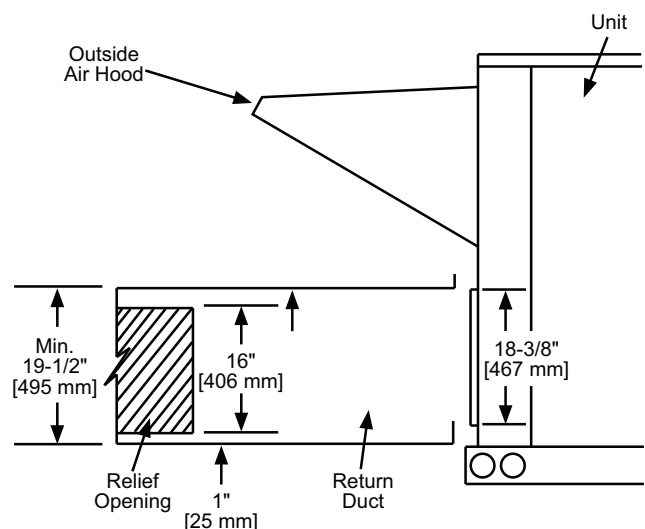

Fig. 19 — Relief Damper
1. Install the field provided horizontal ductwork onto the unit. Duct height must be at least 19-1/2 in. (495 mm) high, however the duct can be no taller than the top of the relief opening in the bottom panel, or airflow into the outside air hood will be restricted. See Fig. 19.
2. Cut a 16 in. x 36 in. (406 mm x 914 mm) opening in the return duct for the relief damper (see Fig. 19).